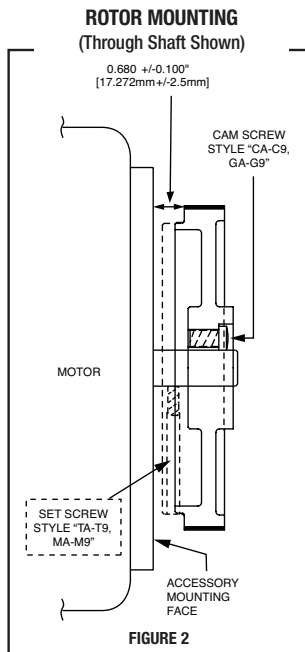
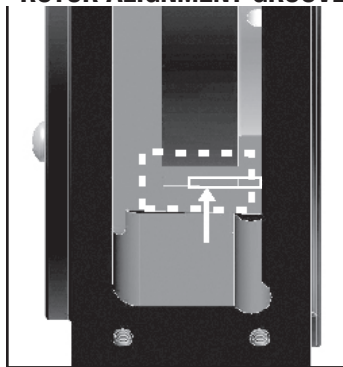

FIGURE 2
Figure 5
2. Slide the rotor on the shaft (option "B" or "T"), ensuring the rotor label "this side out" is away from the motor. The space between the mounting face and the rotor must be set to 0.680" [17.27mm], as shown in Figure 2. Use Avtron gauge (XPHRIG08) or housing alignment grooves as shown in Figure 5 to verify position.
2. Verify the rotor magnetic stripe is aligned with the grooves (see Figure 5).